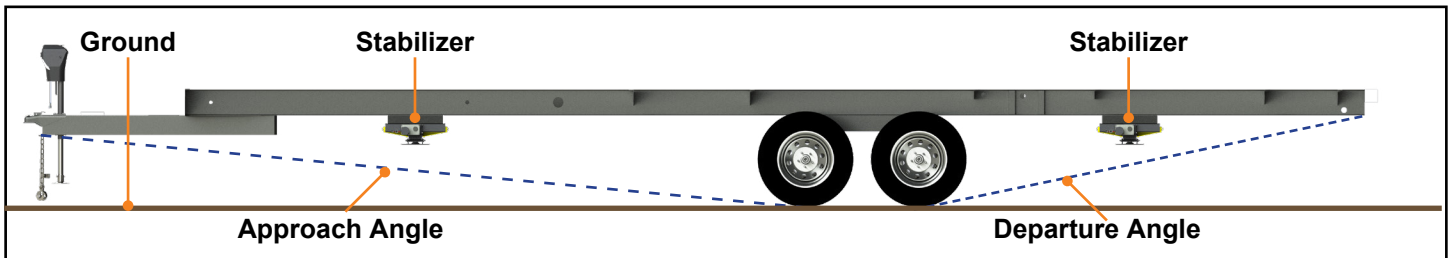

Fig.24
2. To measure approach and departure angle, run a string line from the meeting point of the tire and ground up at an angle to the lowest point on the front and rear of the trailer. These string lines are shown as dotted lines (Fig. 24).